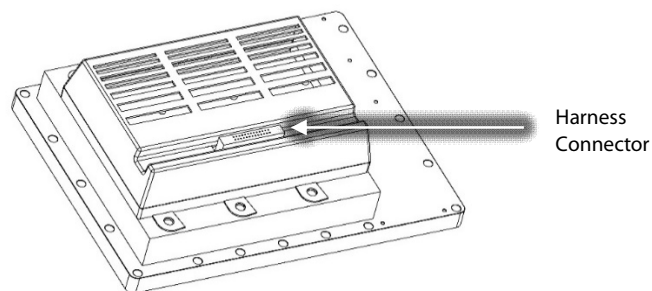

Figure 16 – Inverter Harness Removal
30. Remove the Inverter cable harness from the top of the Inverter. Refer to Figure 16 (Inverter Harness Removal).